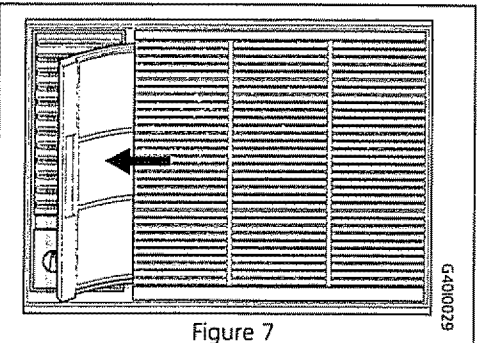

Figure 7
- 6-way louver models have a slide out filter. Grasp the formed handle of the filter and pull it to the left, removing it from the front panel (Figure 7).